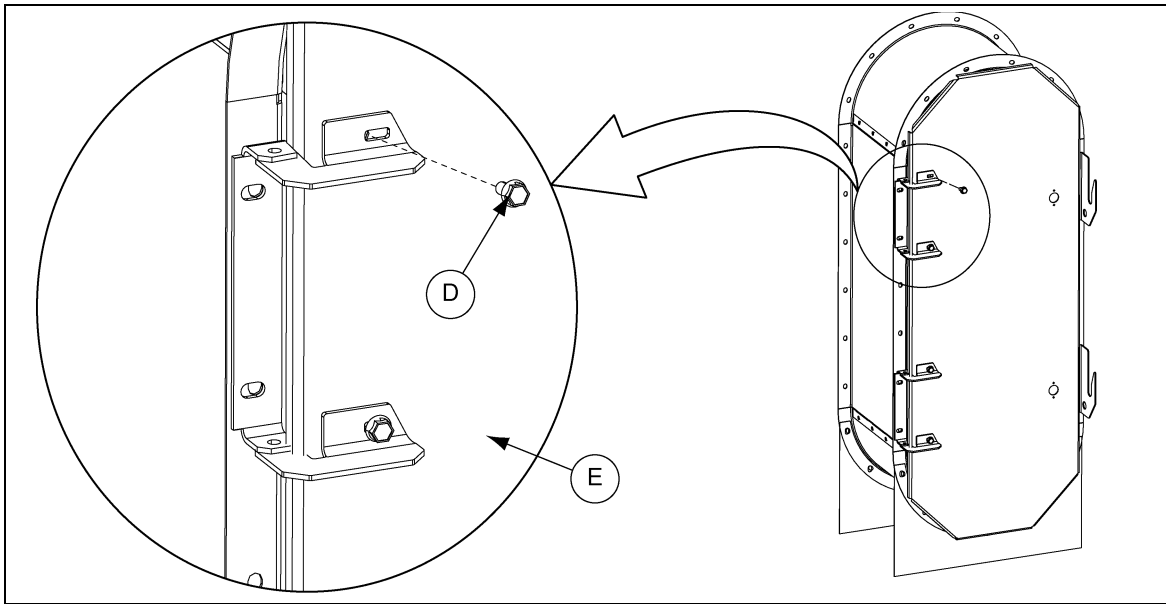

Figure 3
2. Remove old heat section door and install the new heat section door (E) using the same hardware. (See Figure 3.)